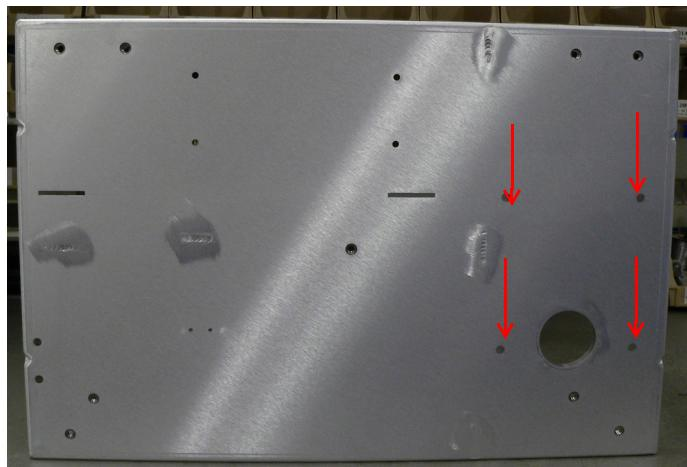

Figure 3: Scroll Pump Mounting Connections
5. Tilt the unit and unscrew the four connections underneath that hold the pump (Figure 3: Scroll Pump Mounting Connections). Place the unit flat again and remove the whole pump assembly.
12. Mount the new scroll pump using the four connections seen in “Figure 3: Scroll Pump Mounting Connections” on page 5.